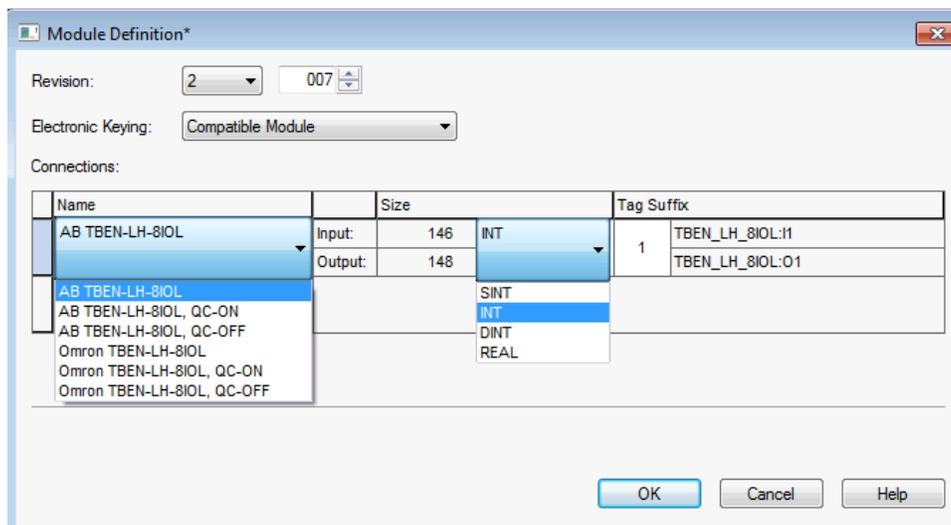

Figure 4.6 – Select connection and data format
- Click “*Change...*” to open the “*Module Definition*” page, Figure 4.6
- Use default connection “*AB TBEN-LH-8IOL*”; select INT data format from the drop down menu, per Figure 4.6